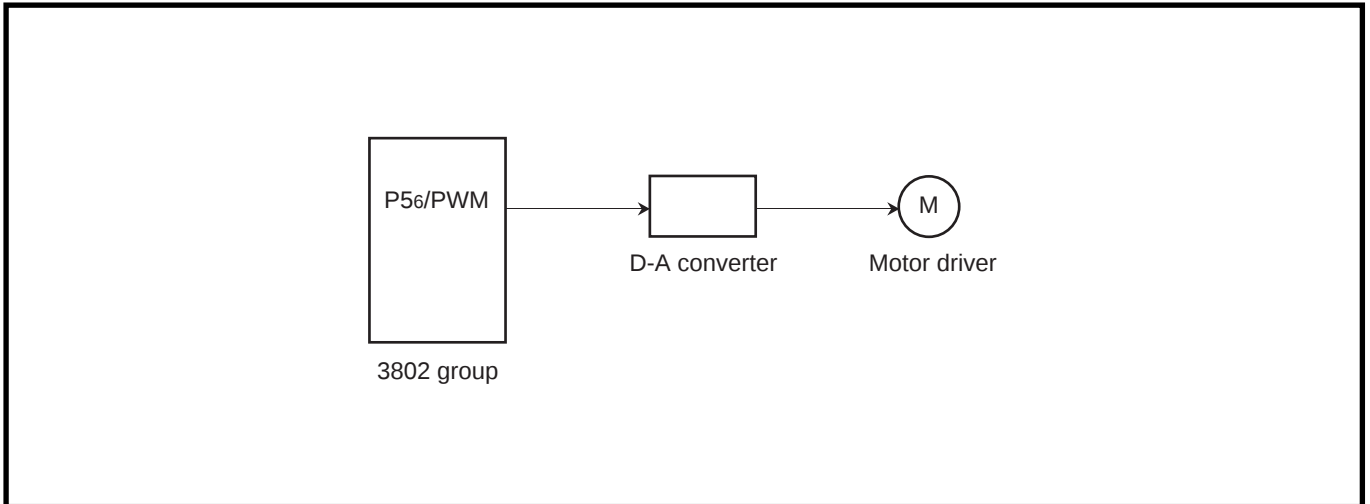
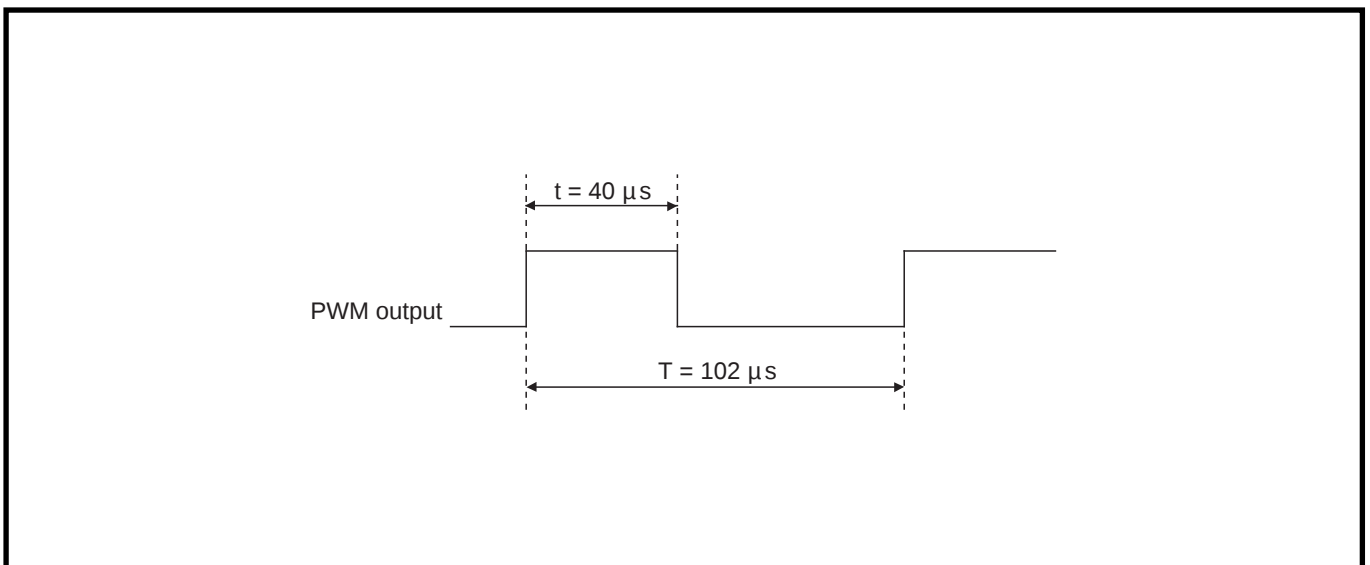
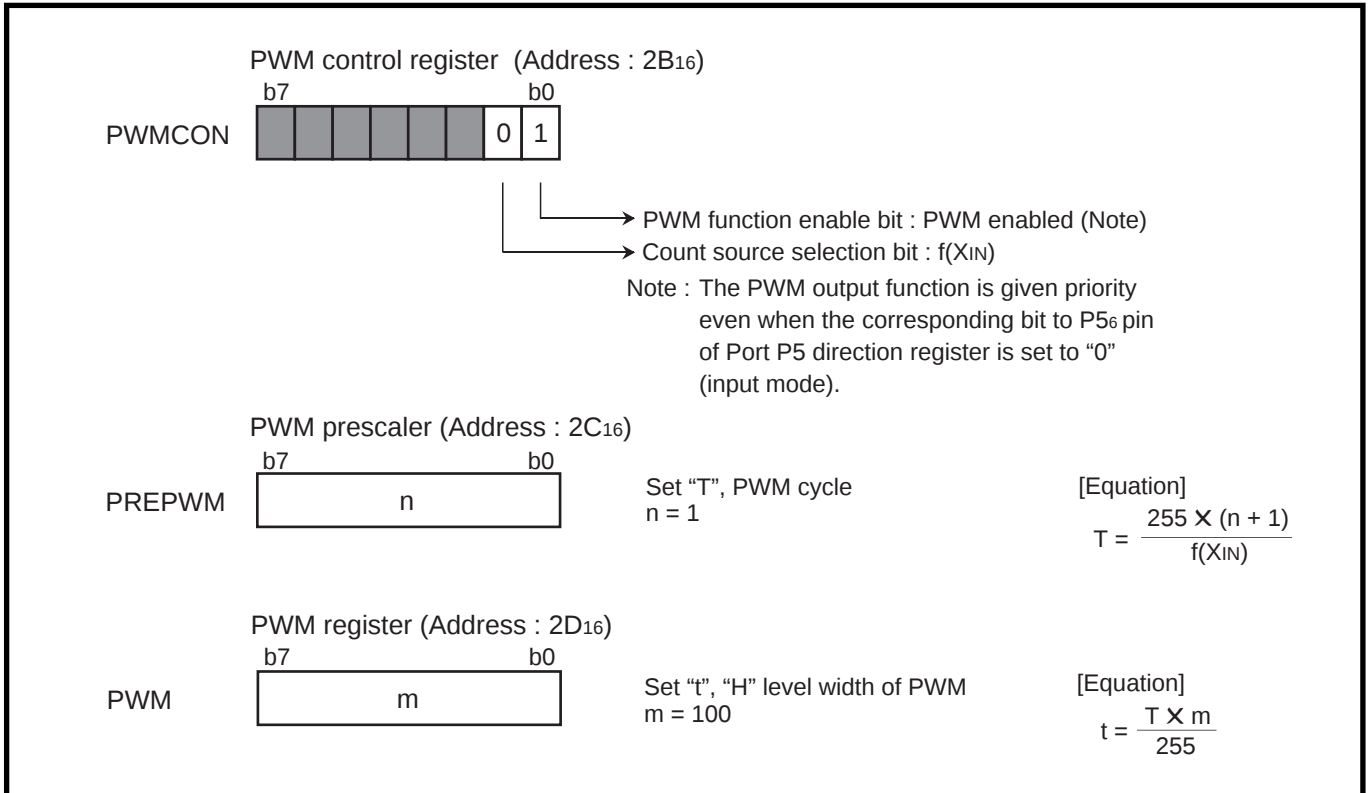

Fig. 2.4.5 Connection diagram
Fig. 2.4.6 PWM output timing
Fig. 2.4.7 Setting of related registers
Figure 2.4.5 shows a connection diagram, Figures 2.4.6 shows PWM output timing, and Figure 2.4.7 shows a setting of the related registers.
**Control procedure :** By setting the related registers as shown to Figure 2.4.7, PWM waveforms are output to the external unit. This PWM output is integrated through the low pass filter and converted into DC signals for control of the motor.